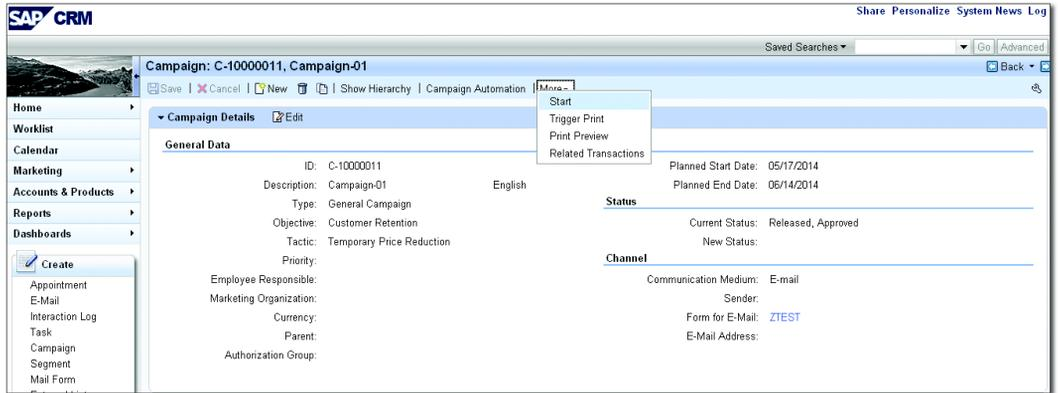

Figure 5.31 Creating the Campaign
6. After the action configuration is completed, create the campaign as shown in Figure 5.31.